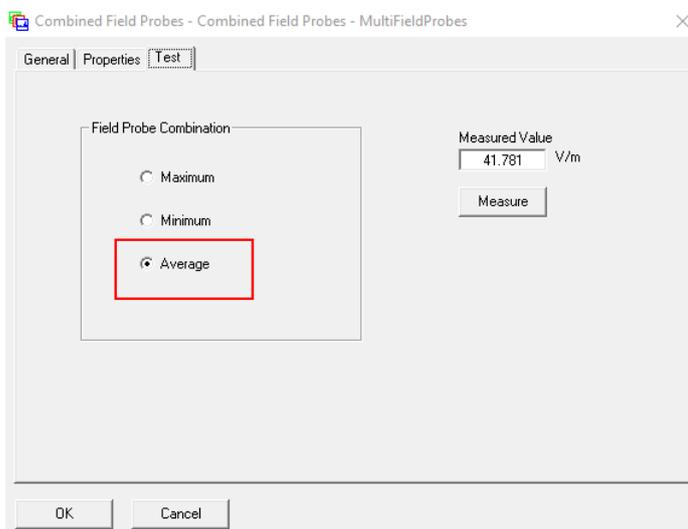

Figure 6: Field Probe combination set to Average
- Field Probe Device Selection: LSProbe\_1, LSProbe\_2, LSProbe\_3, LSProbe\_4 set, see Figure 6
- set Field Probe Combination to Average to compute averaged E-field value over all selected Field Probe Devices, see Figure 6